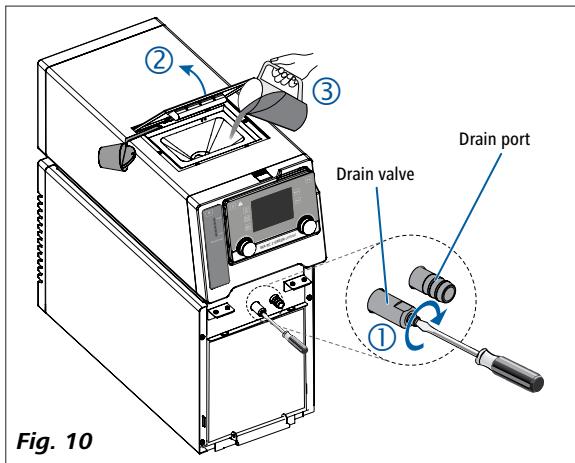

Fig. 10
- Check and make sure that the drain valve is closed (rotate clockwise to the stop position, see Fig. 10).